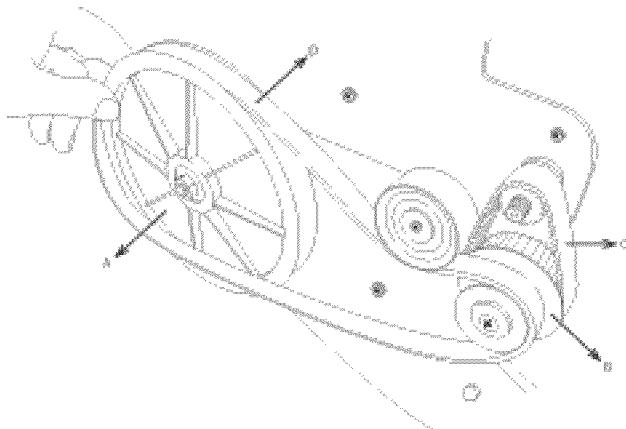

**Figure 34**
4. Replace the small belt by following instructions in reverse order (Figs. 34 and 35).